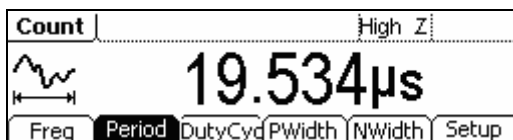

Figure 3-14
(2) Period view: press **Period**, the period will display as figure 3-14;